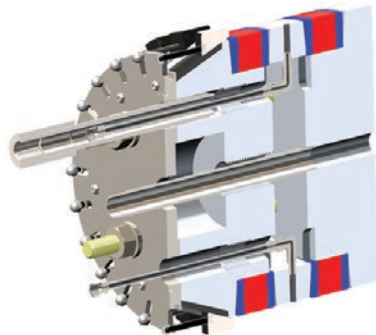

Figure 13: Inserting and Threading *Lifting Standoffs* into the DBB 10" - 12" Plug
- Remove the *MJIC-FNPT Adapter*(1) from the *Vent Hose*(2). The internal thread for the lifting device on 10"-12" plugs are located in the holes where the *Vent Hoses*(2) originate.
- Insert the *Vent Hose*(2) into the hole of the *Lifting Standoff*(23) (see **Figure 13**).
- Insert the *Lifting Standoffs*(23) into the two holes located on top of the *Spring Plate Hub*(20). Hand tighten both *Lifting Standoffs*(23) until they bottom out (see **Figure 13**).